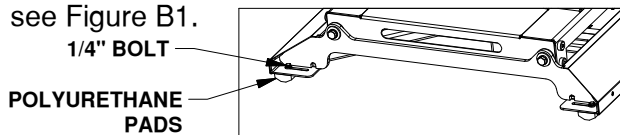

Figure B1: View looking at the Slider Base from the cab of the truck.
2. Loosen the four 1/4" cap screws securing the polyurethane pads on either side of the slider hitch, see Figure B1.